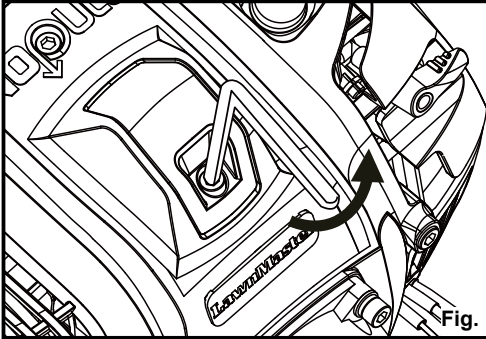

Fig. 1
- Remove the spark plug cover using the provided hex wrench (Fig. 1).